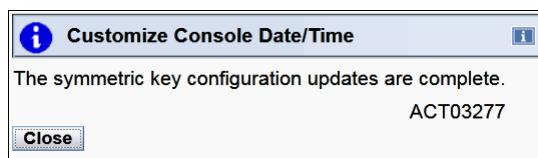

Figure 8-17 Completed message for symmetric key configuration
7. The completion window opens (Figure 8-17). Click **Close** to return to the **Configure NTP Settings** window.